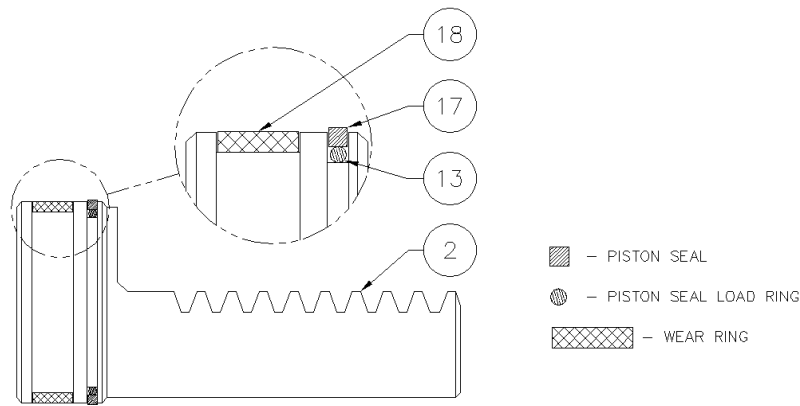

Figure C-1
1. Install the piston seal load ring (13) (Figure C-1) in the small groove on the head of the actuator rack (2). Place the "square" piston seal (17) over the load ring (13) in the same small groove (a small "blunt" flathead screwdriver may be used, taking care not to scratch or damage the seal). Install the wear ring (18) in the large groove on the head of the rack. Using a ring compressor, firmly seat the rings on the rack before setting it aside, this will help to reverse the effects of any stretching of the rings that occurred during installation. Repeat this procedure for the other rack.